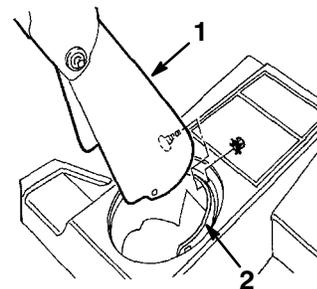

Figure 7
1. Set the discharge chute over the chute ring (Fig. 7).
2. Align the hole in the back of the chute with the center hole in the ring (Fig. 7).
3. Install a carriage bolt and a locknut through the center holes, with the locknut on the outside (Fig. 7).